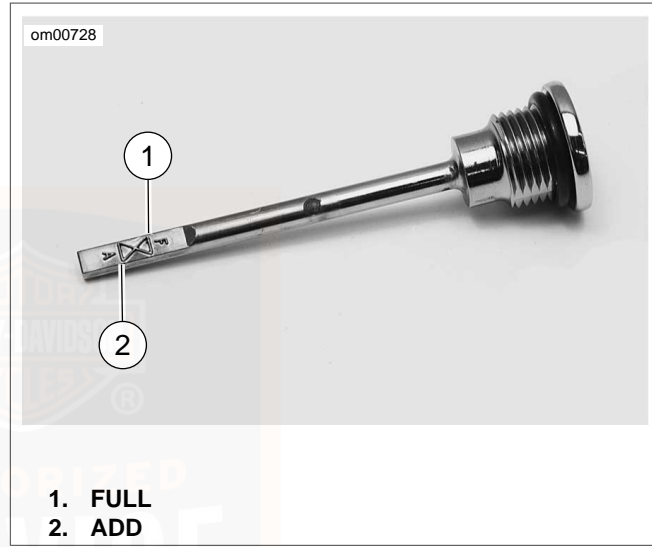

Figure 46. Transmission Filler Plug/Dipstick Lubricant Level
2. See Figure 46. Wipe off filler plug/dipstick. Place in filler hole and remove. (Dipstick should rest on lip of filler. Do not screw in.) Lubricant level should be between the full and low marks on the plug/dipstick when removed.